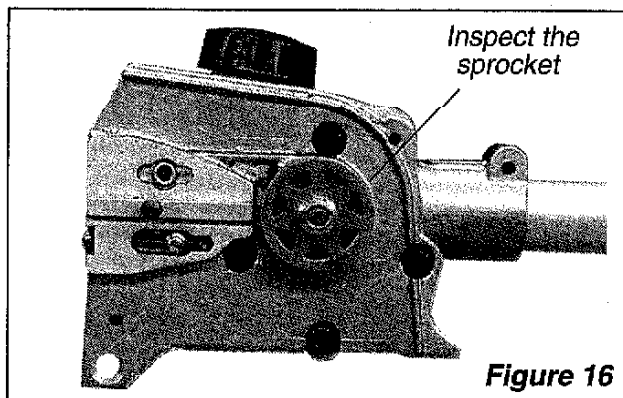

Figure 16
- Remove the sprocket cover and inspect the sprocket for excessive dirt, debris, or wear. Remove the guide bar and clean out the guide bar groove. If the sprocket is excessively worn, replace it with a new one. See Figure 16.